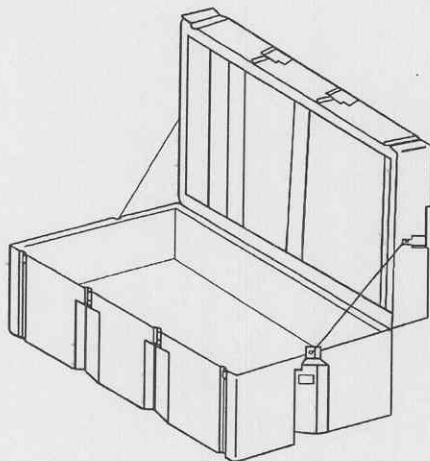

Figure 1-5. Shipping case.
(1) *Shipping case (fig 1-5).* The large, hinged case with foam cutouts is used for shipping the APS with all components and accessories.